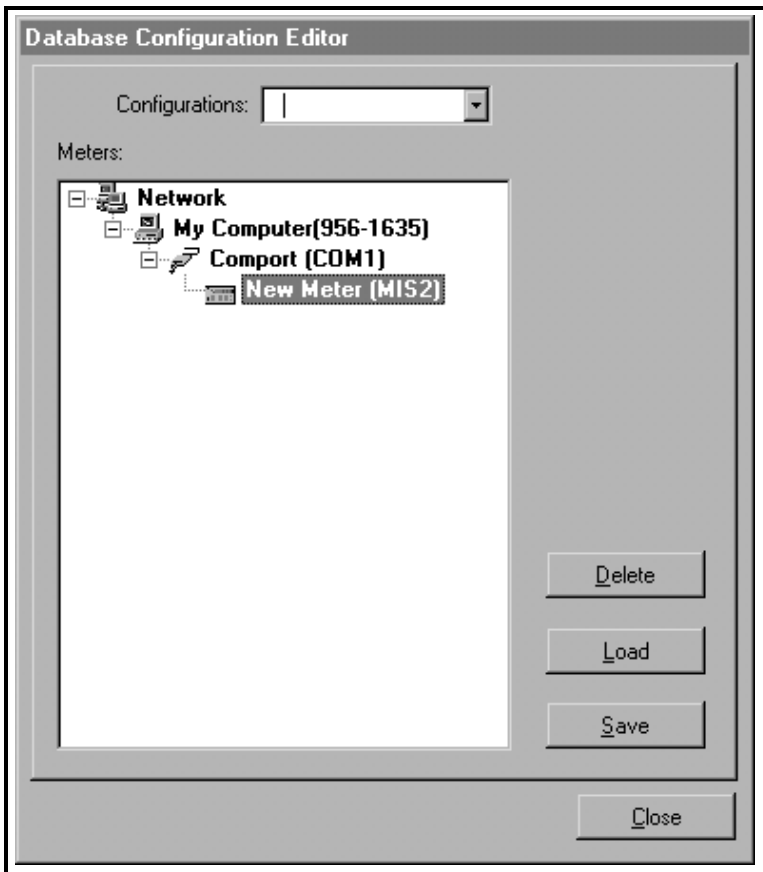

Figure 5-12: Database Configuration Editor
2. At the dialog box shown in Figure 5-12 below, expand the network tree and click on the desired meter to highlight it.
1. In the *Database Configuration Editor*, expand the network tree and highlight the meter whose configuration you wish to save (see Figure 5-12 on the previous page).
1. In the *Database Configuration Editor*, expand the network tree and highlight the meter whose configuration you wish to load (see Figure 5-12 on page 5-13).
1. Make sure that the name of the desired configuration is chosen from the dropdown list and is visible in the text box (see Figure 5-12 on page 5-13). Then, click on the [Delete] option button.
When you have finished using the *Database Configuration Editor*, click on the [Close] option button (see Figure 5-12 on page 5-13) to close the editor. You are then returned to the last active screen.